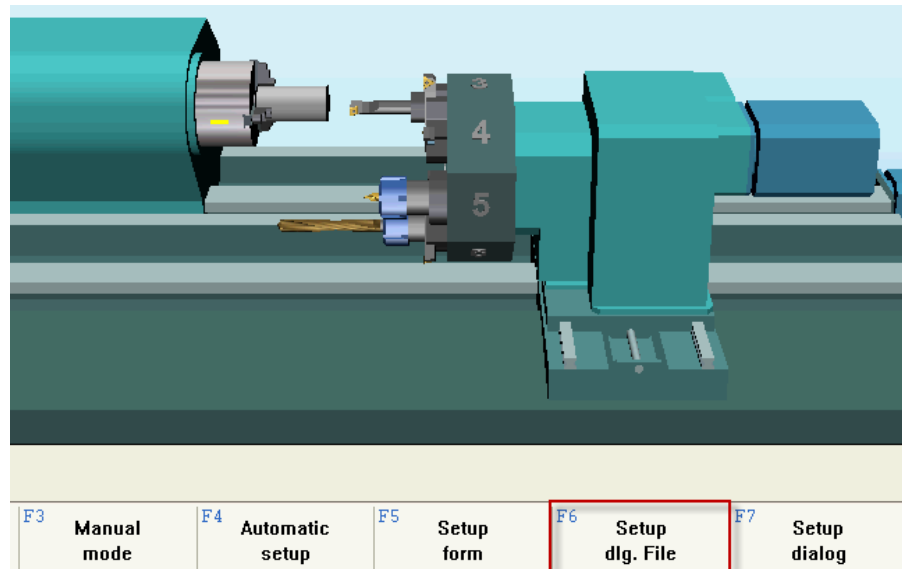

Fig. 2.5: MTS TOPTURN
1. Click **“Setup dlg. File”** or “F6”. On the main menu. Fig. 2.5